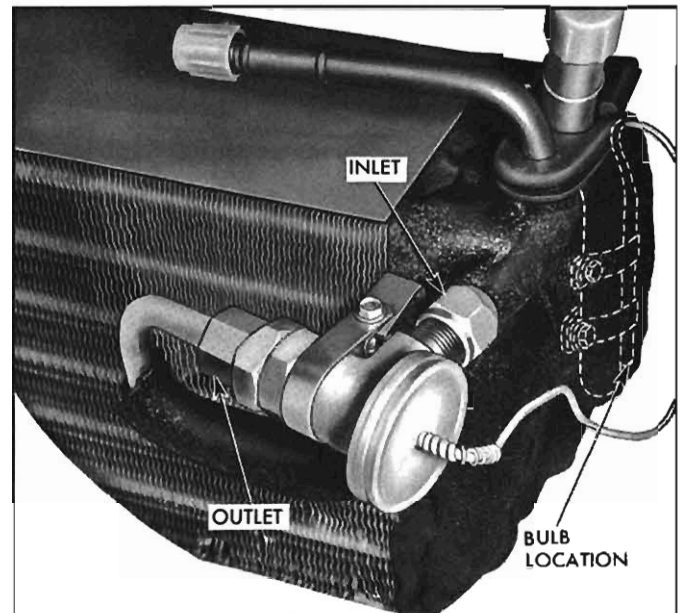

Fig. 11-25—Expansion Valve Connections
4. Remove expansion valve (fig. 11-25) from core and install on replacement core. See "Expansion Valve-Replacement."
2. See Fig. 11-25. Disconnect the pipe fittings from the expansion valve and remove the valve and capillary tubing.